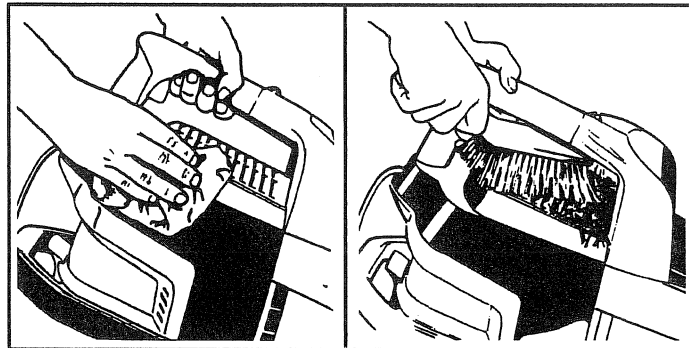

Figure 7
1. Keep air vents and tubes free of debris to avoid overheating the motor. Figure 7. Prevent foreign objects from entering the tubes.
3. Clean the unit and labels using a soft cloth. Figure 7.
4. Remove debris from the air intake vents using a soft brush. Figure 7.